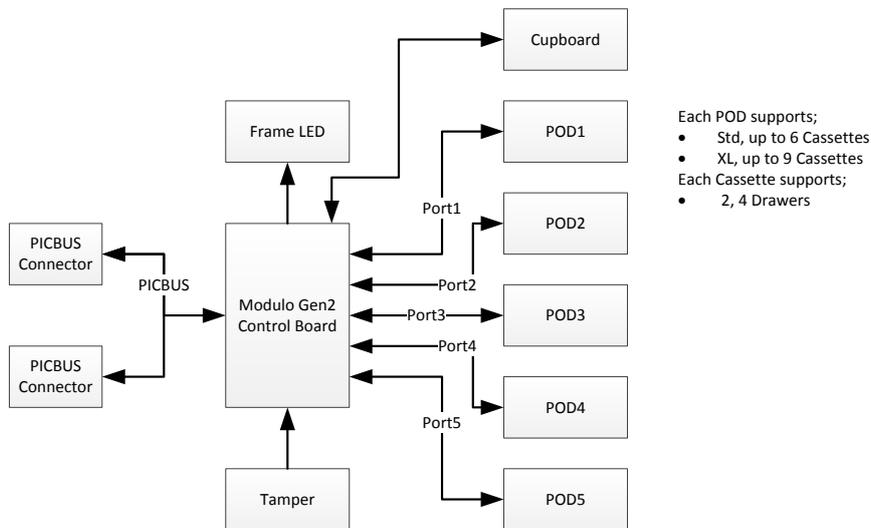

Figure 4 AddOn Modulo Gen2 Electronics Block Diagram
- See Figure 4 for AddOn Modulo Gen2.